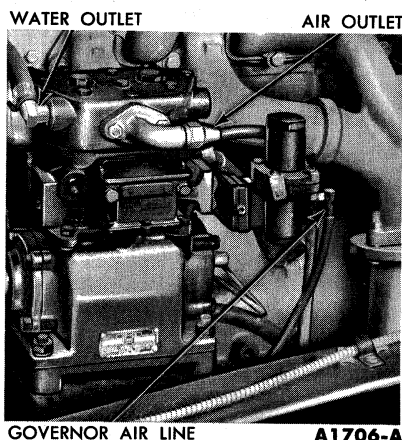

FIG. 6—Air Compressor Air Lines—Ford Diesel
3. Loosen the air outlet line at the air compressor (Fig. 6), and allow the air to escape. Disconnect the air outlet line. Disconnect the governor air line at the air compressor governor.
4. Connect the governor air line and the air outlet line to the compressor (Fig. 6).